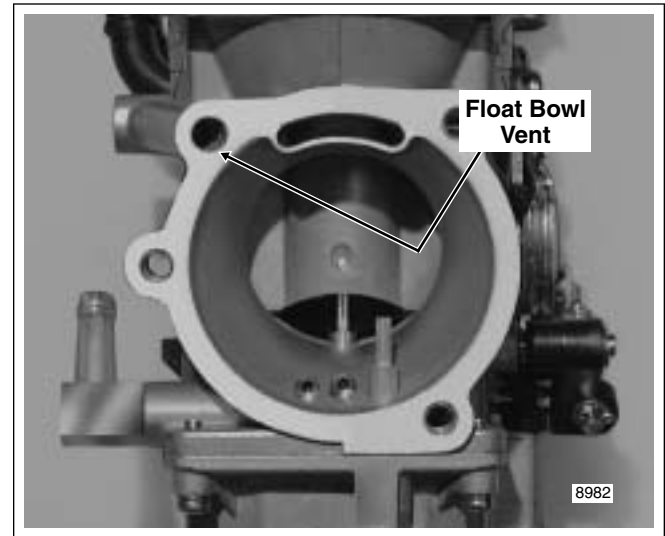

Figure 4-4. Drain Carburetor Float Bowl
11. Keeping carburetor upright, move assembly to bench area. Tilting carburetor, carefully pour gasoline in float bowl into a suitable container. Gasoline will exit float bowl vent shown in Figure 4-4.